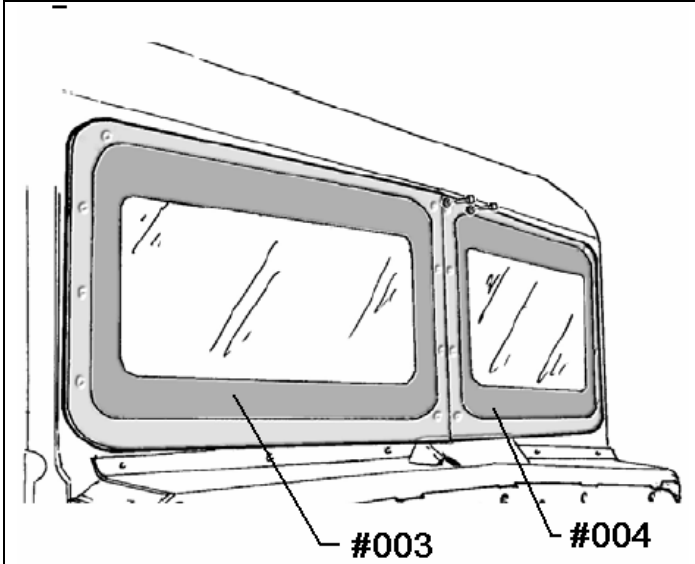

Figure 5-82. Windscreen Kit Installation (3 of 7).
5. Set the windshields in position as indicated in Figure 5-82. Ensure that the strike face is oriented to face forward. Use fasteners in the upper center locations to hold the windshield in position. Do not tighten the fasteners at this time.